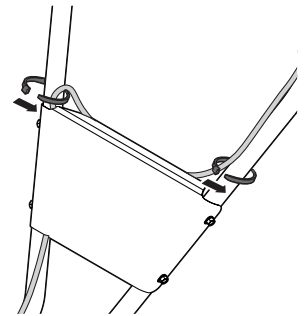

Figure 9
3. Route the wire over the upper handle, then behind the handle panel, securing it to the right side of the handlebar with the clutch cables at the upper corner of the panel. See Figure 9.